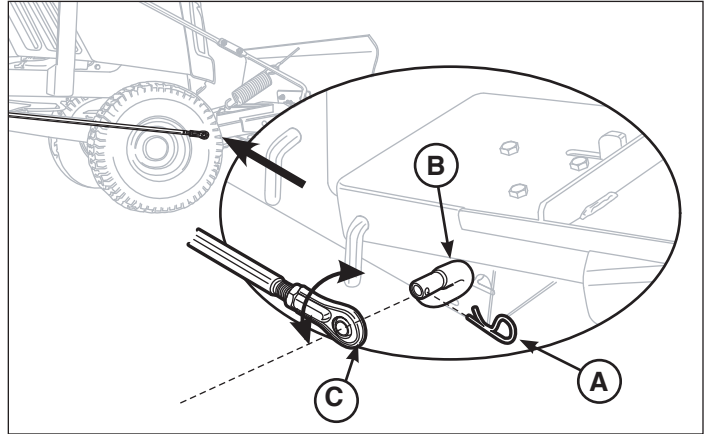

Figure 23
4. Remove the hair pin (A, Figure 23) from bell crank (B) and remove the lift arm assembly (C).